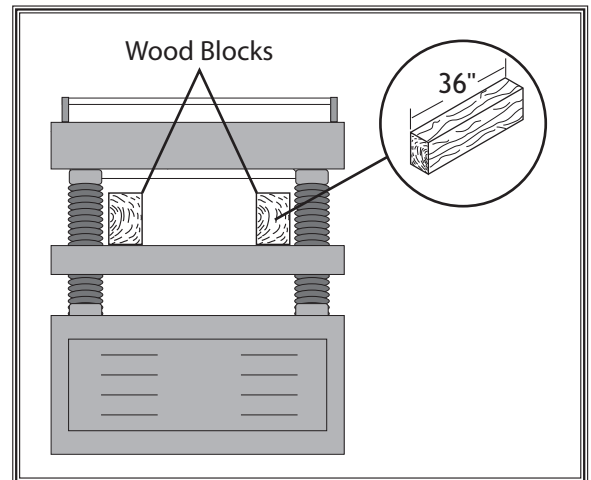

Figure 45. Wood blocks properly positioned on the planer table.
4. Place wood blocks along sides of table, as illustrated in **Figure 45**.